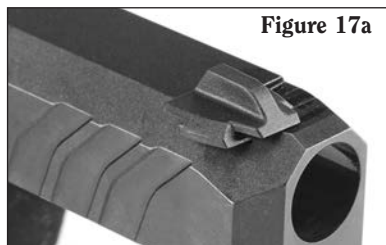

Figure 17a
2. Place the front sight into its dovetail in the slide and by hand push it inward until the bottom of the tension pin stops against the slide (see Figure 17a).